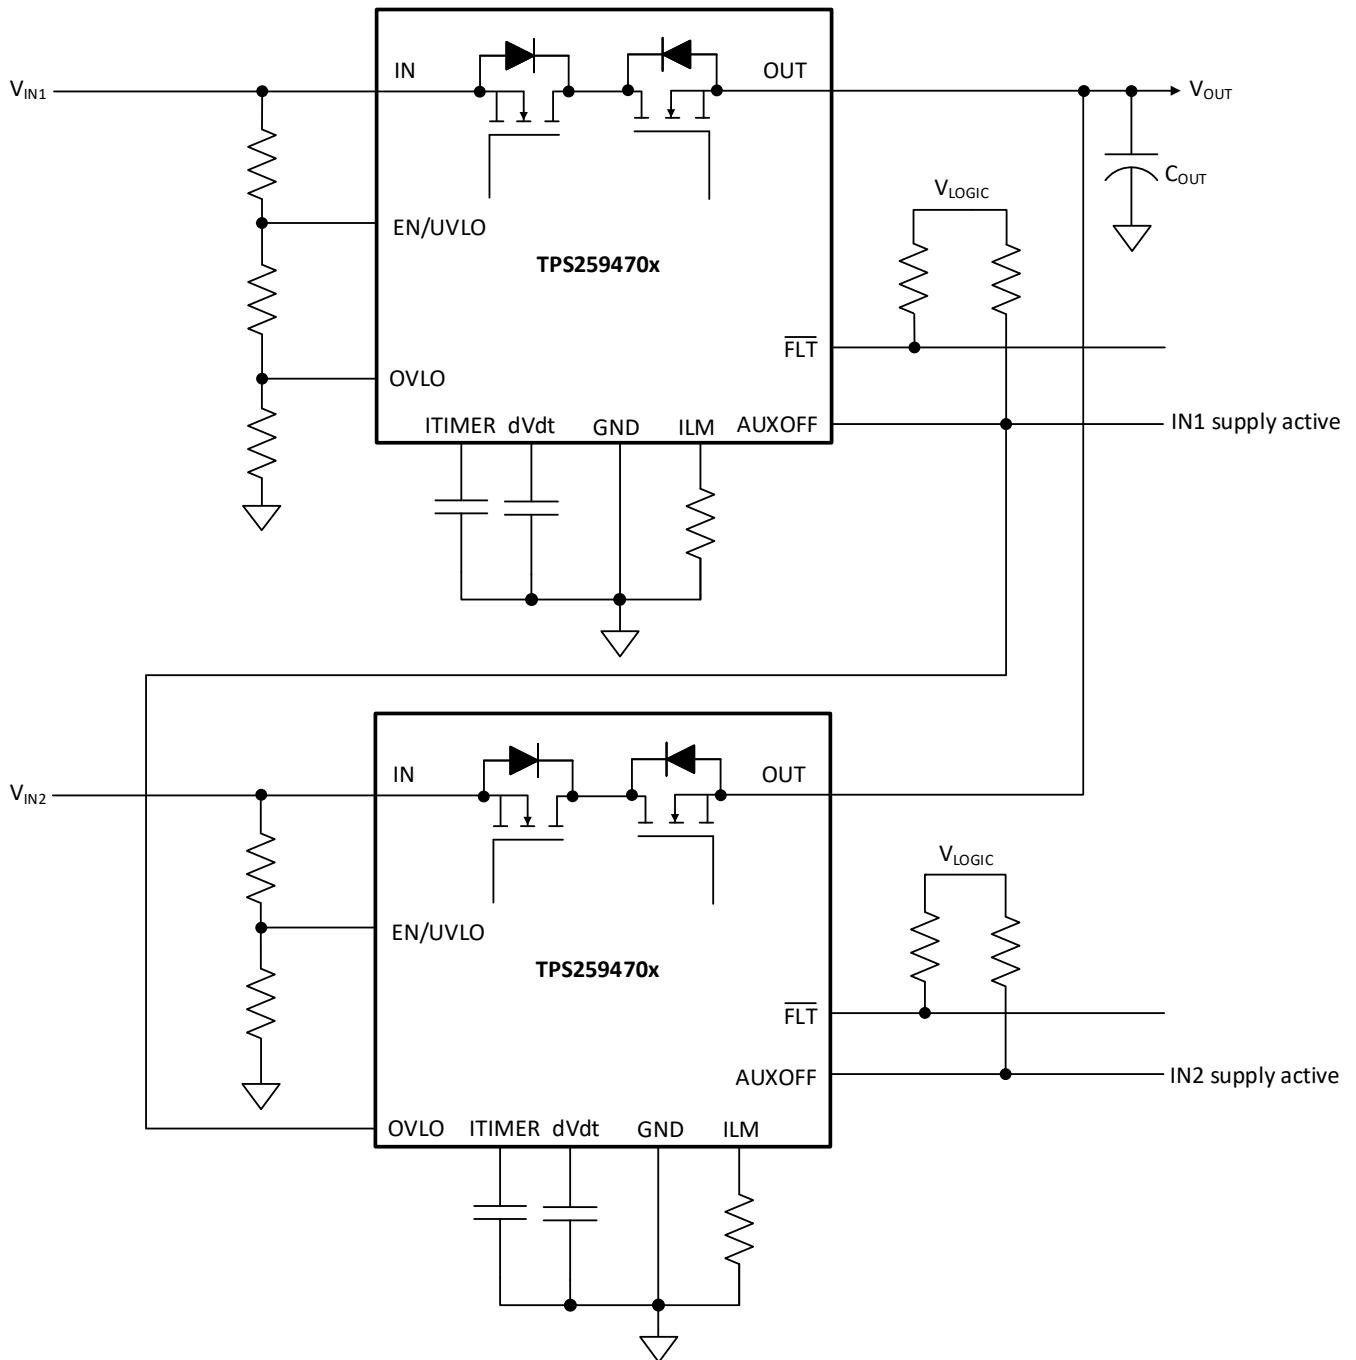

图 9-10. Priority Power MUXing with 2 x TPS259470x - Option 1
**图 9-10** below shows a typical priority power multiplexing implementation using TPS259470x devices. When primary (priority) power source (IN1) is present and within the valid range (not in UV/OV condition), the primary path device path powers the OUT bus irrespective of whether auxiliary supply voltage ( $V_{IN2}$ ) is greater than, equal to or less than primary supply voltage ( $V_{IN1}$ ). The device in auxiliary path is held in off condition by forcing its OVLO pin to high using the AUXOFF signal from the primary path device.